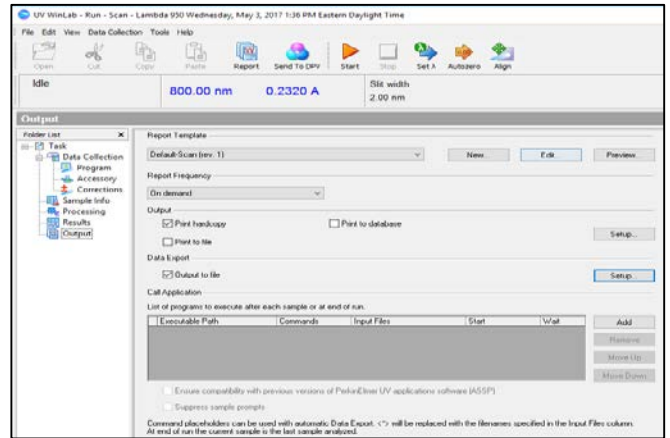

Figure 7: The output file report customization page.
2. Click on *Output* to customize and print and set the report parameters as in Figure 7.